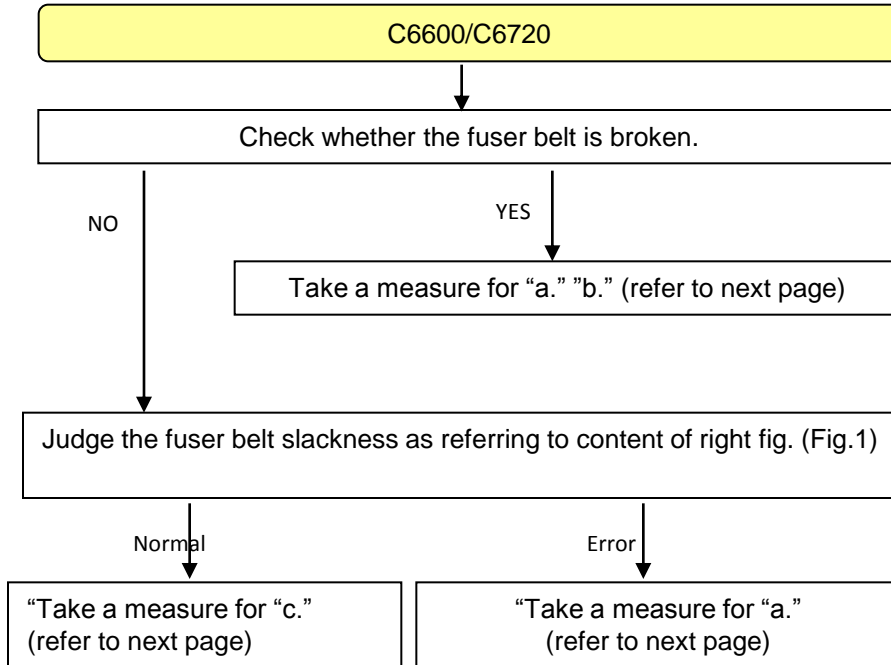

Fig 1
- b. Check the drum rotation (refer to Fig1)
<Fig1 Check Drum Rotation>